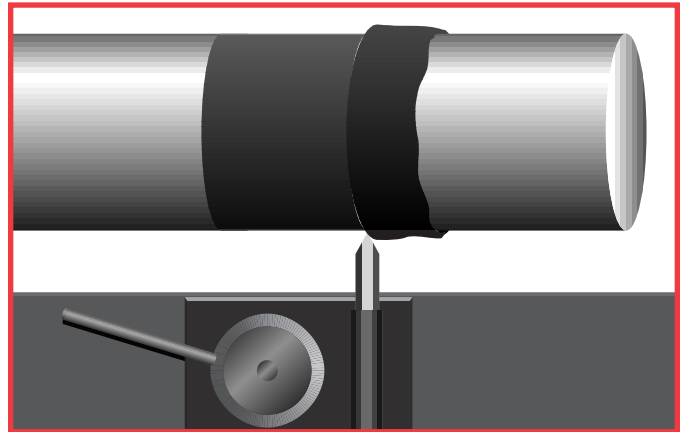

Figure 18. Machine the epoxy to the original dimensions of the shaft.
- 4. Machine the repair** to the required dimensions using the guidelines below. (See figure 18)